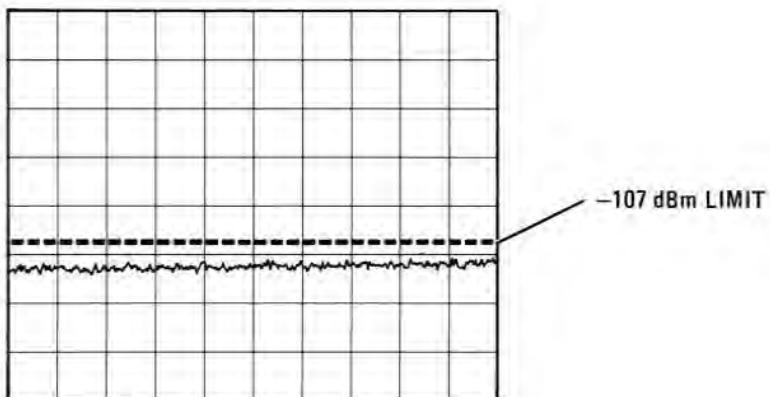

FIGURE 4-12. AVERAGE NOISE LEVEL MEASUREMENT
2. Adjust TUNING until LO feedthrough is not on screen. Set VIDEO FILTER to MAX (not in detent) and observe CRT display of noise level from 1 MHz to 1000 MHz. Noise level, as shown in Figure 4-12, should be less than -107 .
001: Change " -107 dBm " to " -100 dBm " throughout procedure and in Figure 4-12.
002: Change " -107 dBm " to " -53 dBmV " throughout procedure and in Figure 4-12.